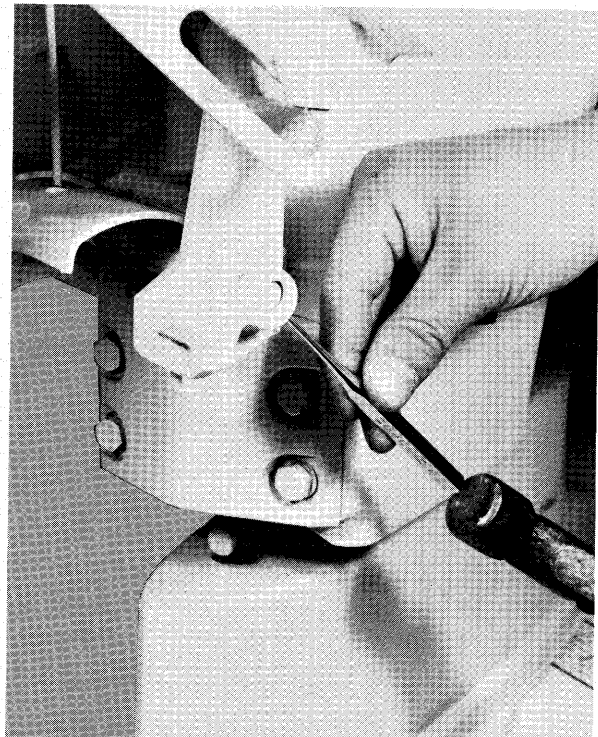

Figure 2—Driving Out Spring Pin
- B. Drive out spring pin securing reverse lock pin to swivel bracket as shown in figure 2.
- B. Align holes of spring and reverse lock with reverse lock pin. Drive pin through holes of spring and reverse lock aligning spring pin hole of reverse lock pin with hole in swivel bracket. Secure reverse lock pin to swivel bracket by driving in spring pin. See figure 2.